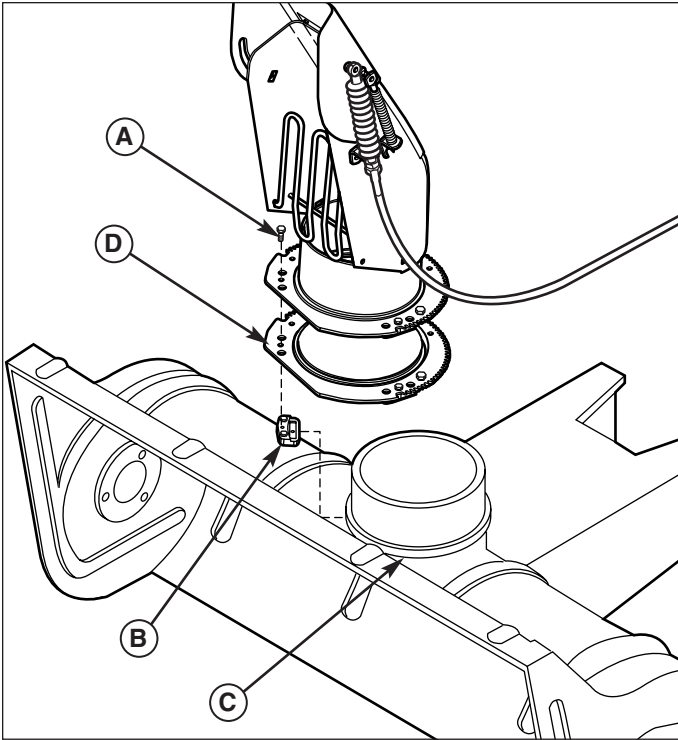

Figure 11. Assemble Discharge Chute
1. Locate the hold downs (B, Figure 11), reinforcement ring gear (D), and plastite screws (A).
4. Install the discharge chute and reinforcement ring gear (D), and secure to the chute ring (C, Figure 11) using the three hold downs (B) and plastite screws (A).